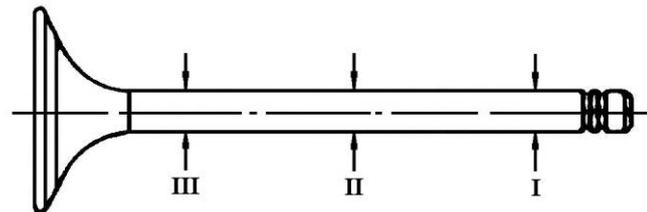

Figure 7 Valve Stem Measuring Points
- h. Before lapping the valves to the valve seats, check the valve stems for wear. Using a micrometer, measure the valve stems in three places (Figure 7). The standard diameters are:
- (1) inlet valve - 8.88 to 8.961 mm (0.350 to 0.353 in); and
- (2) exhaust valve - 8.88 to 8.936 mm (0.350 to 0.352 in).